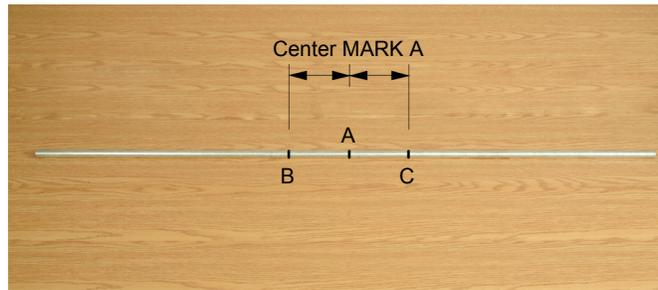

Figure 41. Mark A, B and C on the conduit.
- Multiply the saddle depth by 2.5 to obtain the A — B and A — C distances as shown in Figure 41.